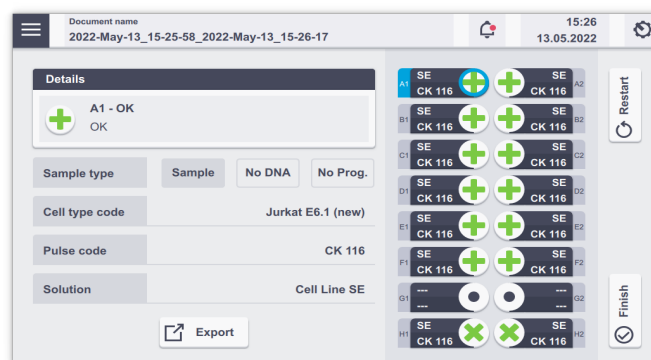

Figure 2.23: Result screen (A). Tap on wells to receive details about the experiment. For explanation of symbols, refer to chapter 4.1.
2. When the experiment is complete, a result file summarizing the Nucleofection® Process will be displayed (Figure 2.23).